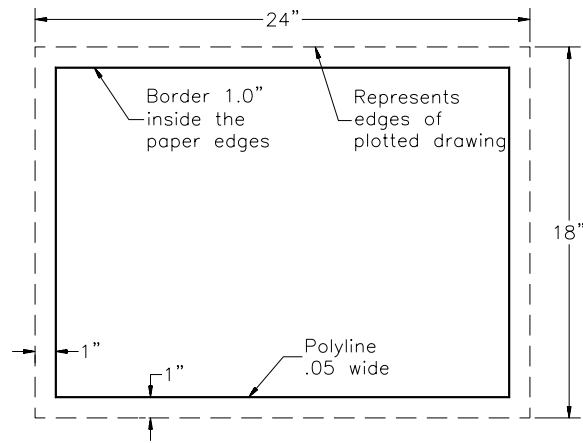

Figure 13-24 *Prototype drawing*
Create a prototype drawing, as shown in Figure 13-24 with the following specifications (the name of the drawing is *protoe6.dwt*):
- Border The border is 1" inside the edges of the plotted drawing sheet, using the PLINE 0.05" wide when plotted (Figure 13-24)